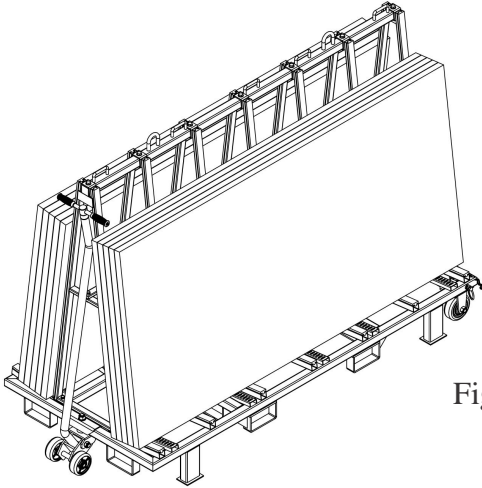

Figure 1.1
Step 1: Place the stone slabs on the A-frame (figure 1.1).